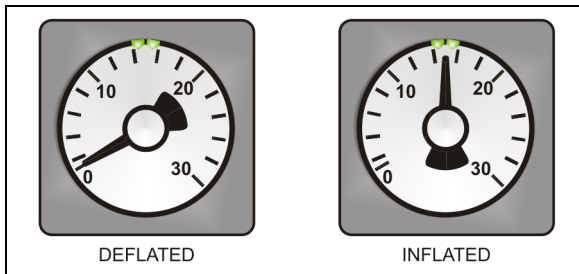

FIGURE 14: INFLATABLE SEAL PRESSURE GAGE
4. Finally, the inflatable seal can be re-inflated by turning the shut-off valve handle counterclockwise. Check the pressure gage on the inflatable seal regulator to see if the pressure increases to 15 psi  $\pm$  5 psi (Figure 14). Needle should be pointing between the two small green marks on the dial.
7. Finally, the inflatable seal can be re-inflated by turning the shut-off valve handle counterclockwise. Check the pressure gage on the inflatable seal regulator to see if the pressure is increasing to 15 psi  $\pm$  5 psi (Figure 14).